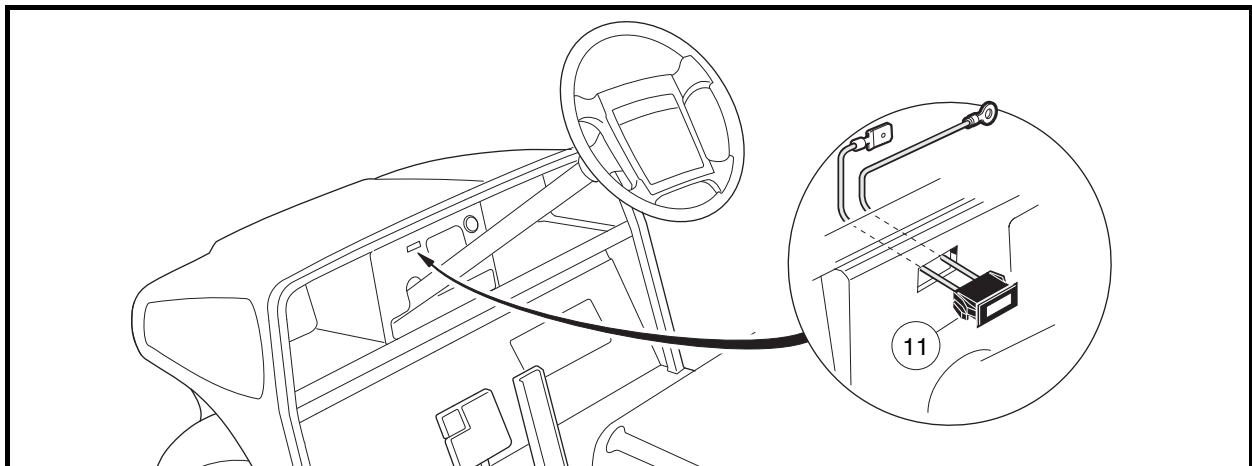

Figure 13-13 Battery Warning Light
4. Press the two retaining tabs (11) and remove the light from the center dash (**Figure 13-13, Page 13-15**).